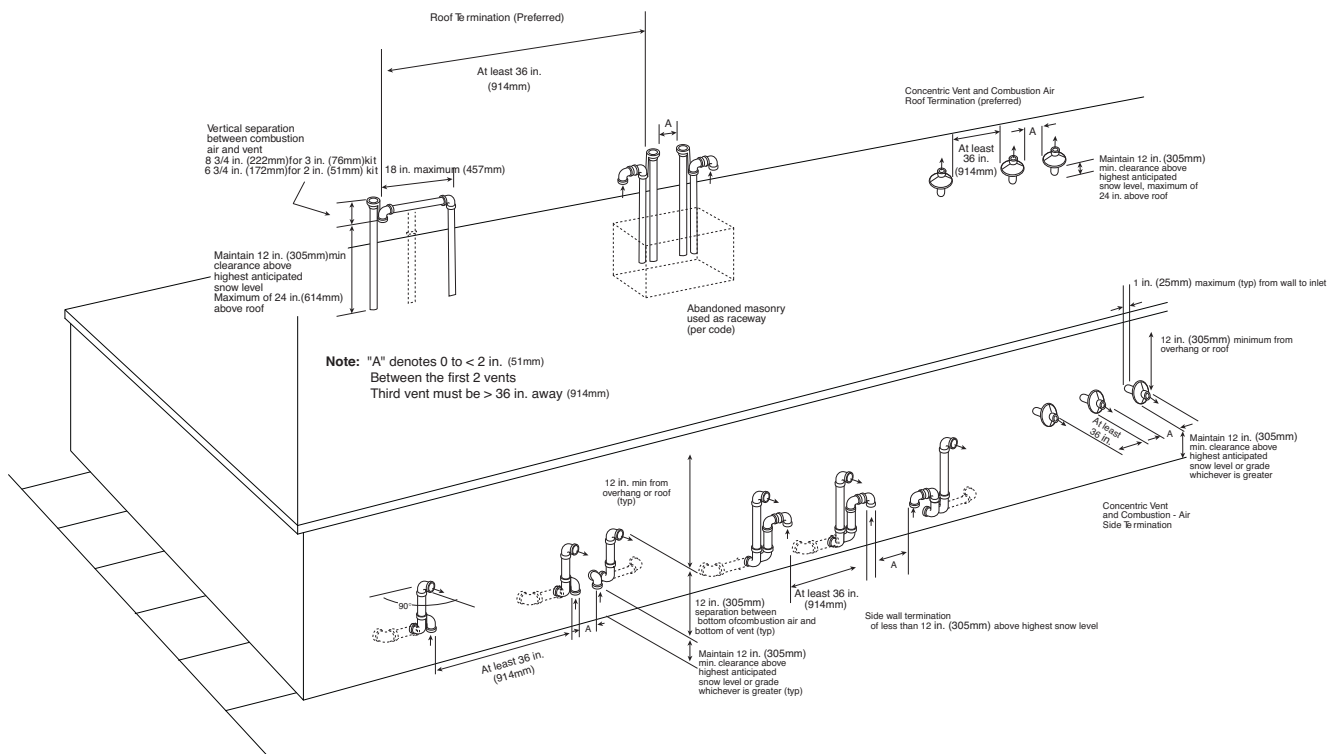
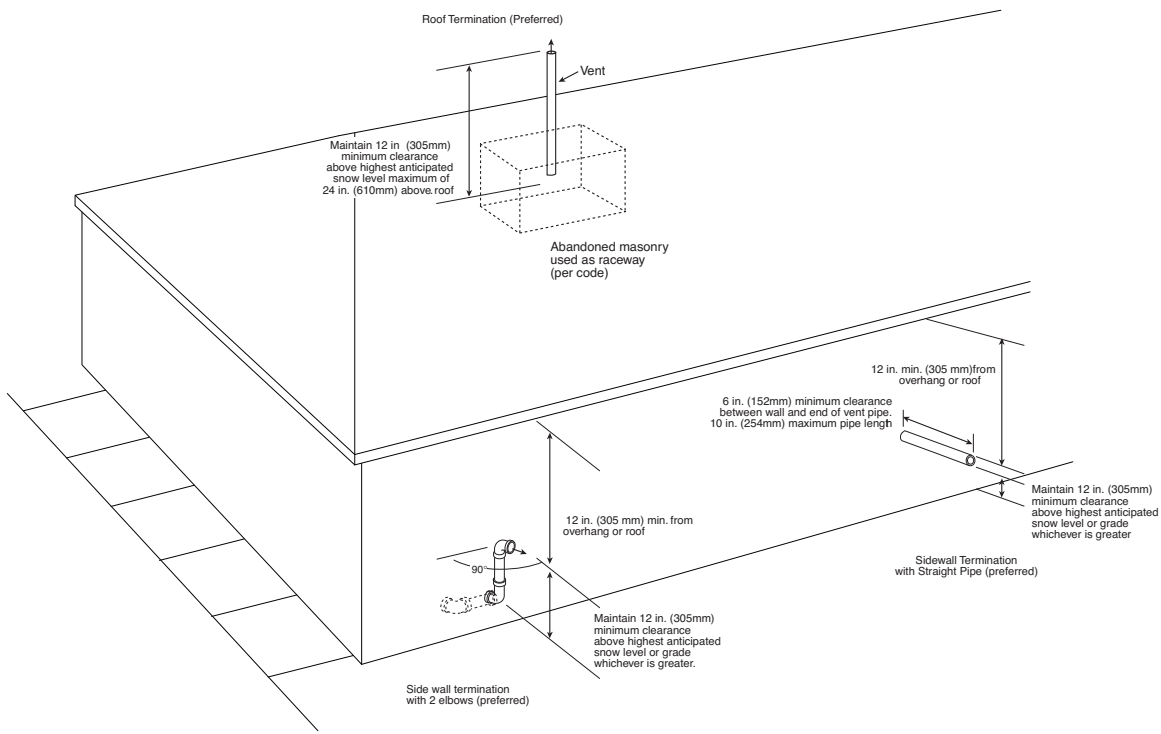

Fig. 44 - Combustion Air and Vent Pipe Termination for Direct Vent (2-pipe) System
Fig. 45 - Vent Pipe Termination for Non-Direct Vent (1-pipe) System
Combustion-air (direct vent/2-pipe system only) and vent pipe must terminate outside structure, either through sidewall or roof. For vent termination clearance, refer to Table 8 for Direct Vent/2-Pipe system and Table 9 for Non-direct Vent/1-Pipe system. For exterior piping arrangements, refer to Fig. 44 for Direct Vent/2-Pipe system and Fig. 45 for Non-Direct/1-Pipe system.
area shown in Fig. 44 or 45 per application in outside ambient by insulating pipe as indicated in Table 10.
Roof terminations — Locate assembly through roof to appropriate height as shown in Fig. 44.
Sidewall terminations — Locate assembly through sidewall with rain shield positioned no more than 1-in. (25 mm) from wall as shown in Fig. 44.
5. Check required dimensions as shown in Fig. 44.
Roof terminations — Loosely install pipe coupling on properly cut vent pipe. Coupling must be positioned so bracket will mount as shown in Fig. 44.
For applications using combustion-air pipe option, indicated by dashed lines in Fig. 44, install 90° street elbow into 90° elbow, making a U-fitting. A 180° U-fitting may be used.
Sidewall terminations —Install bracket as shown in Fig. 44.
For applications using vent pipe option indicated by dashed lines in Fig. 44, rotate vent elbow 90° from position shown in Fig. 44.
4. Check required dimensions as shown in Fig. 44.
(Direct Vent/2-Pipe System ONLY)-When 2 or more 58MEB furnaces are vented near each other, 2 vent terminations may be installed as shown in Fig. 44, but next vent termination must be at least 36 in. (914 mm) away from first 2 terminations. It is important that vent terminations be made as shown in Fig. 44 to avoid recirculation of flue gases.